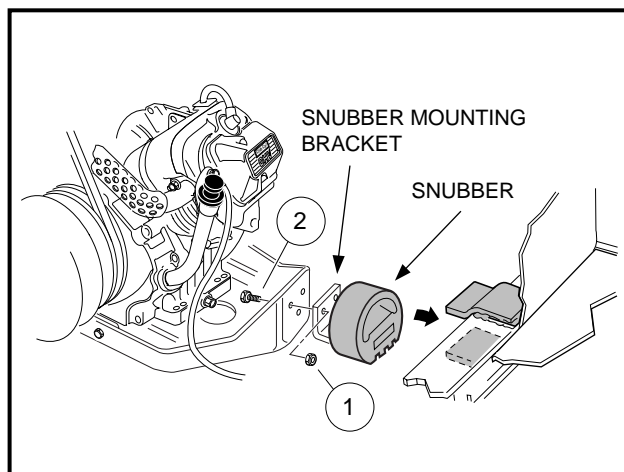

Figure 9-5 Snubber Brackets
2. Remove the two bolts (2) and two locknuts (1) securing the snubber bracket to the engine mounting plate (**Figure 9-5, Page 9-7**).
2. Tighten snubber bracket mounting nuts (1) to 13 ft-lb (17.6 N-m) (**Figure 9-5, Page 9-7**).